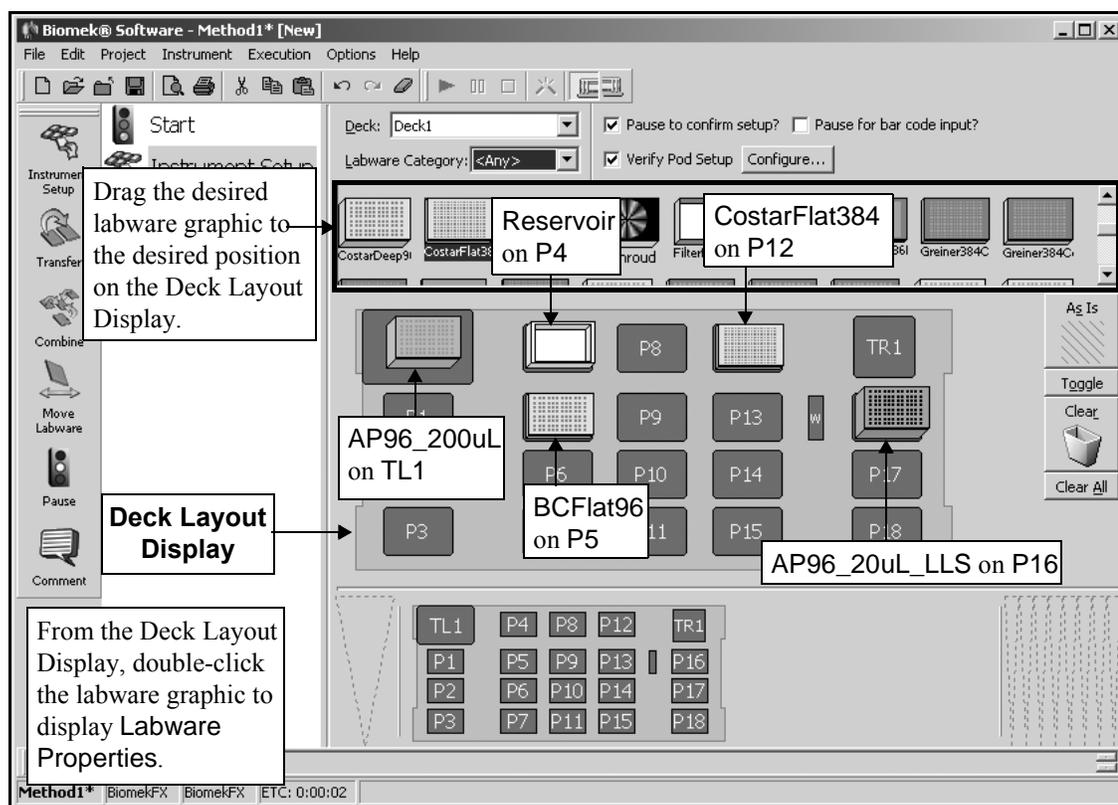

Figure 2-3. Instrument Setup step with labware added
- a **Costar384FlatSquare** to P12. Your screen should look like Figure 2-3.